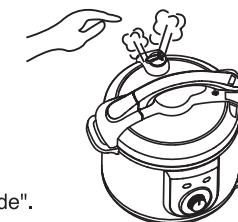

Figure9
5. Put the pressure discharging in its position, then set it to "seal" point, be sure that floating valve is in down position (See Figure 9)